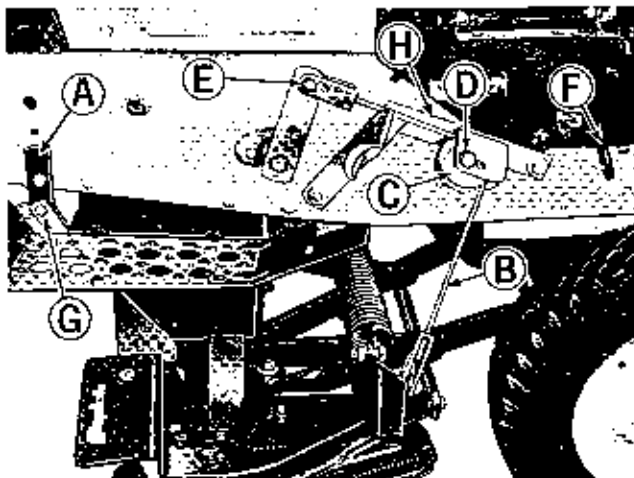
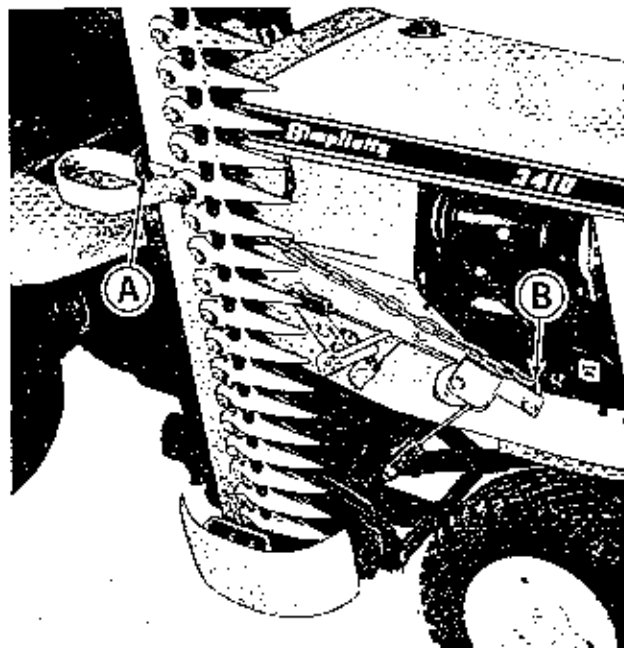
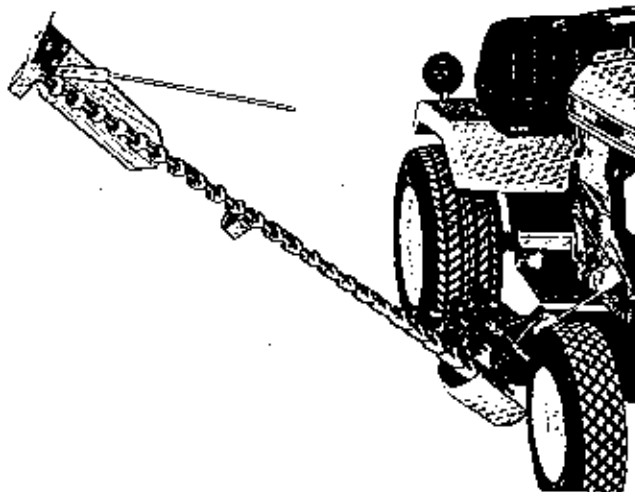

Figure 2. Right side of tractor with lift cable installed.
Figure 6. Sickle bar in transport position.
Figure 7. Sickle bar raised with tractor lift.
1. See figure 2. If your Simplicity dealer has not already done it for you, install the chain support (A), lift cable support assembly (H), and transport chain (Figure 6, Item B) shown. These parts need only be installed once as they can remain on the tractor when the sickle bar is removed.
3. See figure 2. Use a pin (G) and spring clip to attach the mower mounting chain to the tractor as shown.
4. See figure 2. Position lift cable (B) inside pulley (C) as
8. See figure 6. If the mower is to be transported, raise the sickle bar with the tractor lift and hook at (A) as shown to hold the cutter bar up.
1. See figure 6. Unhook the transport chain (A) and lower the cutter bar. Store the transport chain inside the tractor frame and place the hook as shown in figure 2 at (F). Place the tractor lift in the lowered position.
5. See figure 2. Remove the pin and spring clip at (E) to release lift cable (B) from the tractor lift arm. Remove spring clip and pin (D) and pulley (C) and remove the cable from inside pulley (C). Reinstall pulley (C) and pin (D) and secure with a spring clip.
6. See figure 2. Remove spring clip and pin (G).
The sickle bar mower may be transported short distances such as across a field at moderate speed with the cutter bar raised at an angle as shown in figure 7 by using the tractor lift system. If the mower is to be transported greater distances the cutter bar should be raised to the vertical position and held with the transport chain (A) as shown in figure 6. The tractor lift should be raised enough to lift the sickle bar off the ground anytime the mower is being transported. **CAUTION:** USE CARE WHEN RAISING THE SICKLE BAR TO INSURE YOUR HANDS ARE CLEAR OF THE SICKLE KNIVES. THE KNIVES ARE VERY SHARP AND CAN MOVE AND CAUSE INJURY WHILE THE SICKLE BAR IS BEING RAISED.
See figure 6. To lower the cutter bar, unhook the transport chain (A) and slowly lower the cutter bar, until it rests on the ground or is held up at an angle by the tractor lift system.
See figure 2. Place the transport chain inside the tractor frame and place the hook as shown at (F). It will remain in this position during operation and not interfere with the cutter bar.